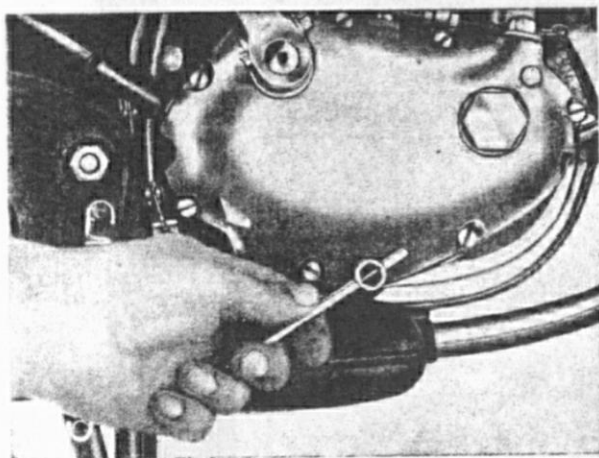

Fig. 6: Drain plug for transmission oil
4. If the oil level is above the top mark, loosen drain plug (Fig. 6), drain a little oil, wipe dipstick before measuring oil level again. Screw up dipstick completely every time you measure the oil level.